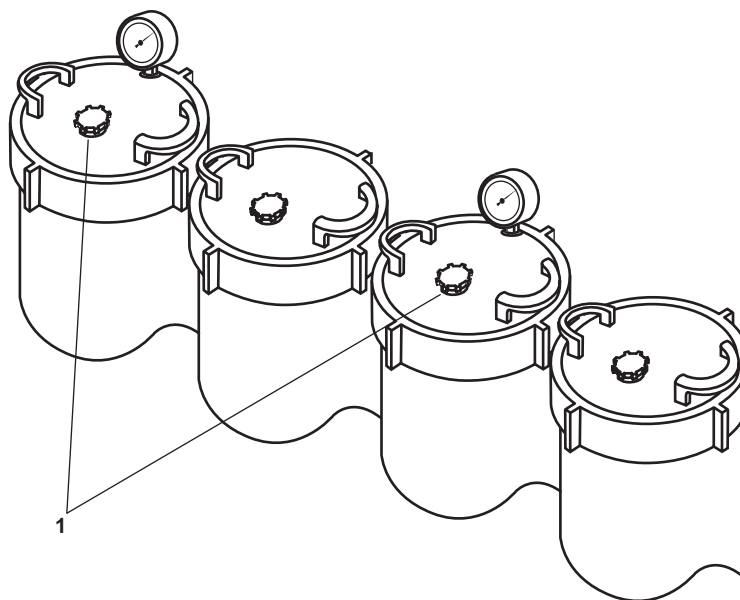

Figure 7. ROWPU Filters
4. Draw water samples from the 5-micron filter air release valves (figure 7, item 1) and verify that the water is salt and chlorine free. If the samples are salt and chlorine free, continue with the procedure. If the samples are not salt and chlorine free, continue fresh water flushing.